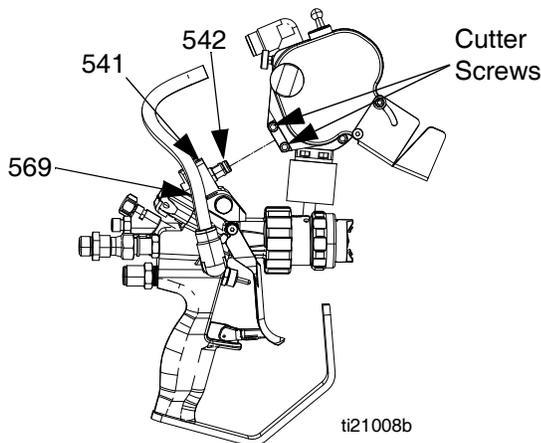

FIG. 6
- a. If necessary, use a crescent wrench to adjust pivot (541) so that it is parallel to gun front end and the open end points to the front of the gun. See FIG. 6.
- b. Back out two screws on cutter. See FIG. 6.
**NOTE:** Ensure proper engagement of o-ring (542) into the cutter assembly. Verify there is no excess air leakage because it will greatly reduce the performance of the air motor. See FIG. 6.
- e. Connect the air tube (569) from the gun to the air motor on the cutter.